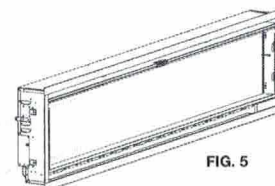

FIG. 5
- Use 4 screws to secure the appliance into the wall (FIG. 5). Do not overtighten screws.